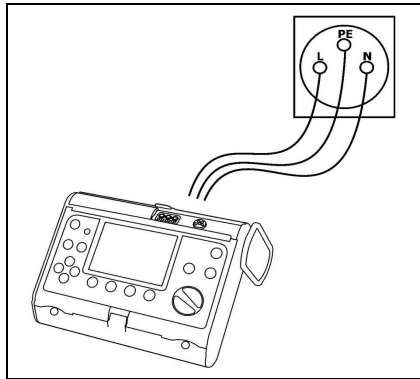

Figure 6. Connection of the meter.
- connect the meter to the power network socket of the board using leads, in accordance with Figure 6,